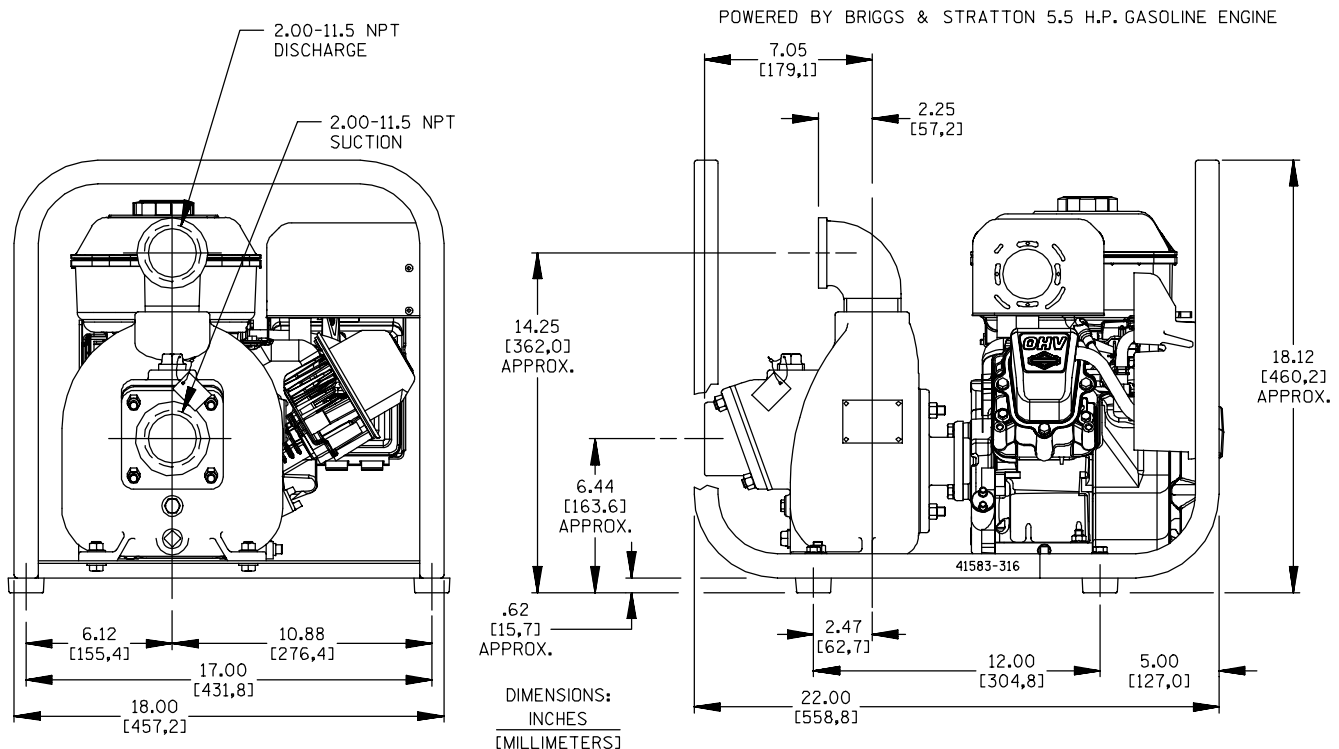

Figure 1. Pump Models 82D2-11
See Figure 1 for the approximate physical dimensions of this pump.
- e. The rubber foot mounting kit (see the Parts List, Section E, Page E—3) was shipped loose with the pump. Refer to Figure 1, Page E—2 and install the parts as shown.